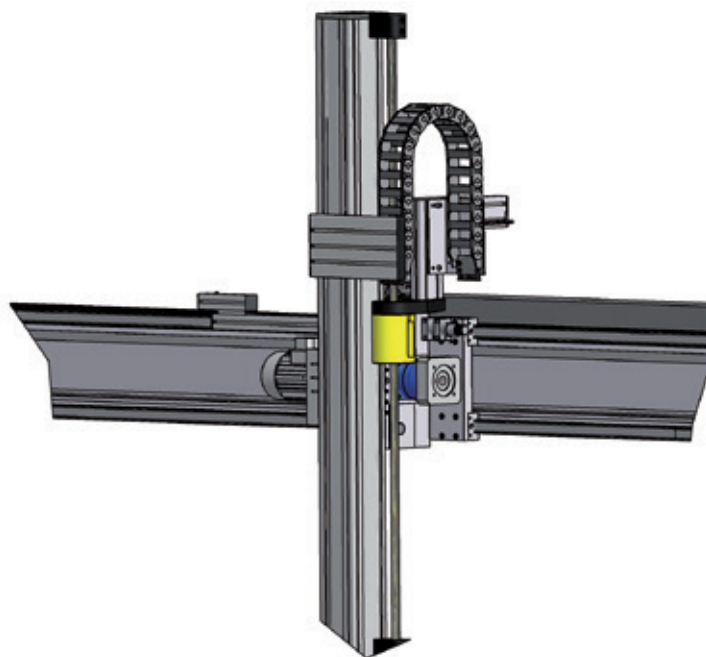

Figure 8.1 ___ Lifting - Axis with safety break
- Safety break (Chapter 6.9) for vertical axis (Figure 8.1)